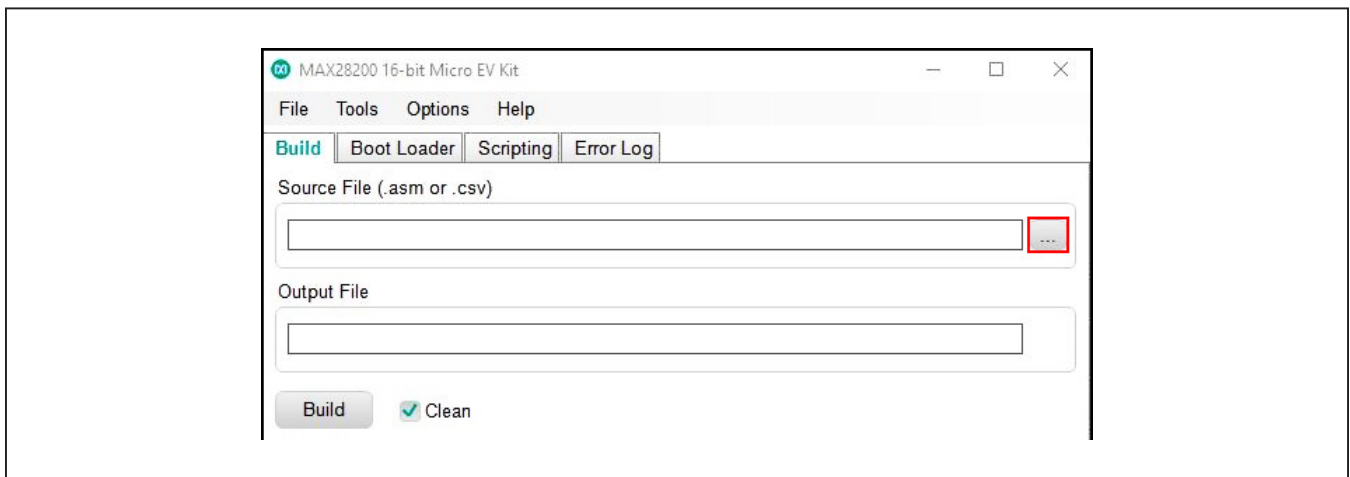

Figure 19. Selecting a .csv File from the Directory to Convert into .hex File
- 2) On the **Build** tab (Figure 19), click ... button to the right of the **Source File** field to select a .csv file.